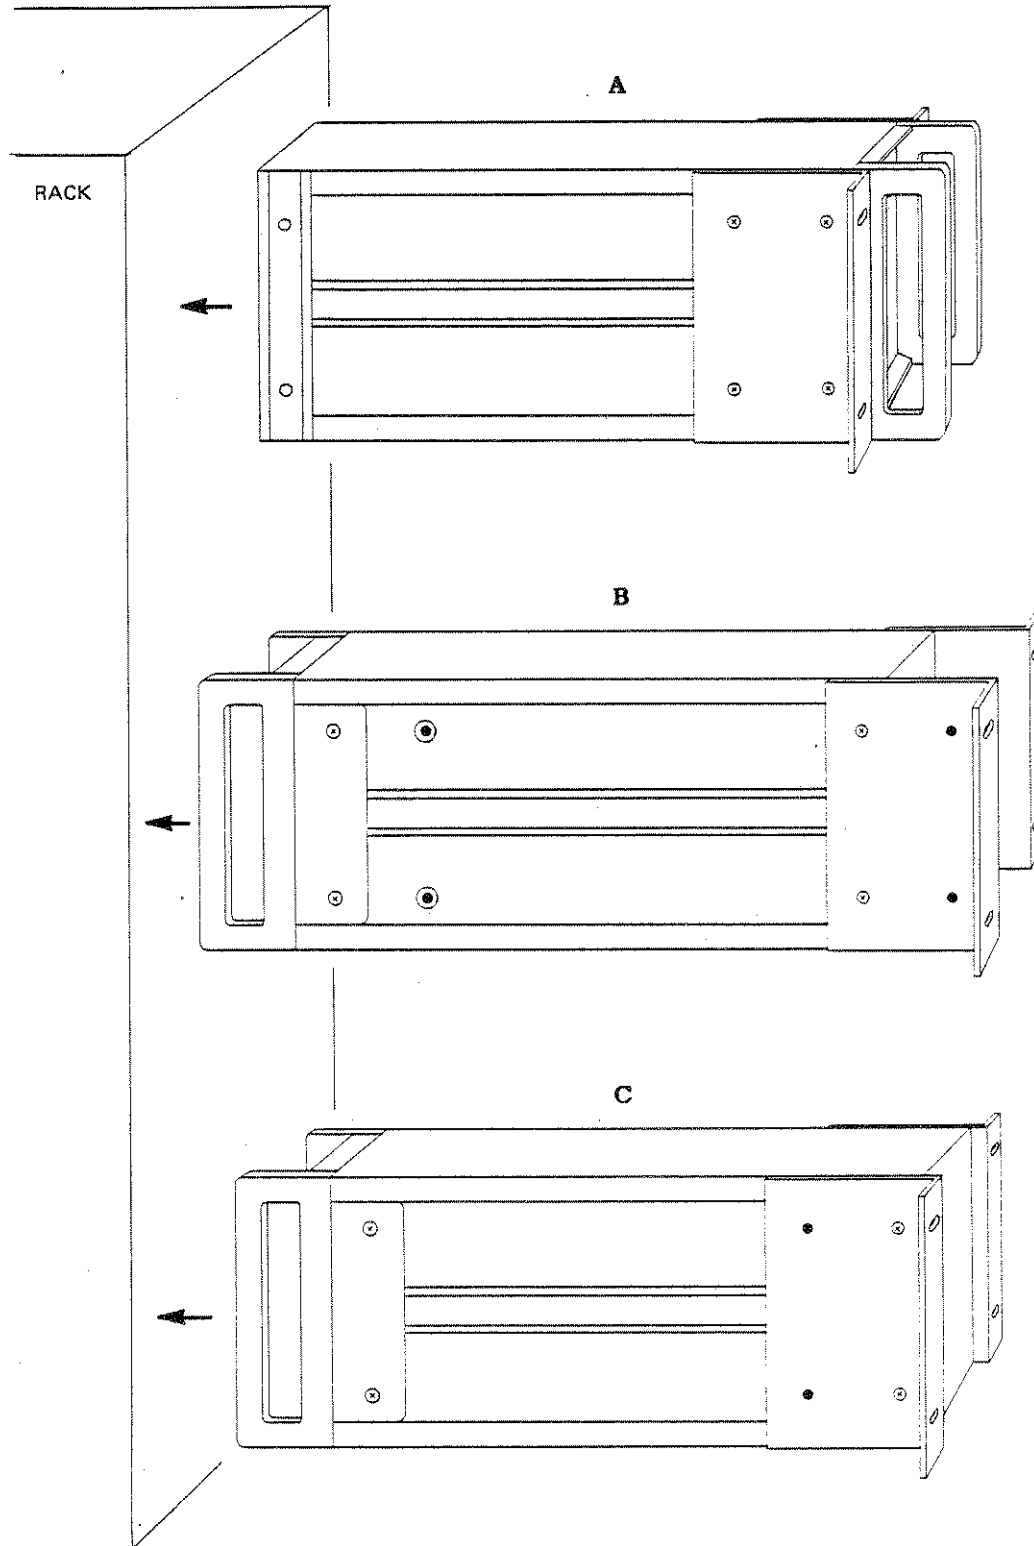

Figure 2-9 - Standard (A) and Optional Rear-Forward Rack-Mount (B and C) Assembly-to-Instrument Configurations
2.8.3 Rear-Forward Rack Mounting - refer to subsection 2.7, including Figure 2-9, of the 1250 Manual for rear-forward rack-mounting instructions.